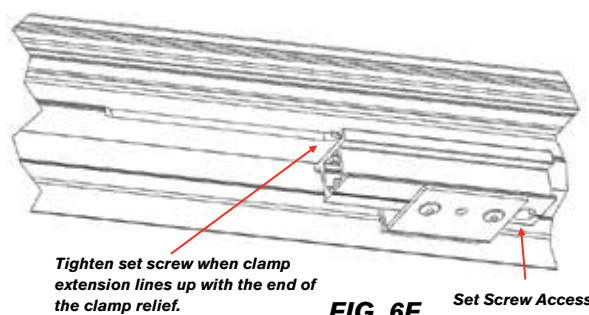

FIG. 6F
- Next slide the extensions so they line up flush with the end of the clamp relief as shown in Figure 6F and tighten with a 5/32" Allen Wrench. If you have trouble sliding on the clamp extension, make sure your set screw is not sticking out the top of the clamp extension.